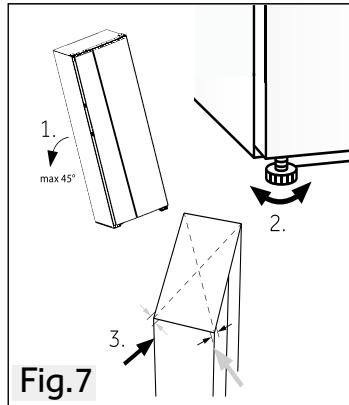

Fig.7
1. Tip the appliance slightly backwards ( Fig .7) .